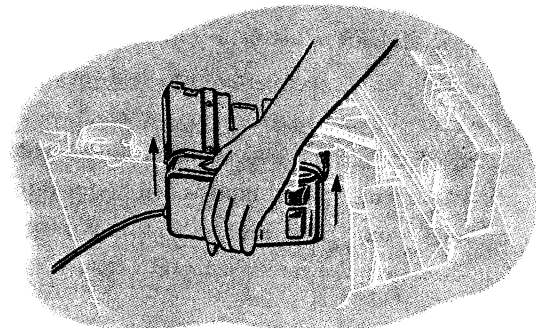

Fig. 3B. Replacing Controller in Cabinet
*Fig. 3. Showing Handle for Carrying Machine with cradle, install controller in side of cabinet as shown in **Fig. 3B**, then connect 2-pin terminal. Lower machine to sewing position and connect 3-pin terminal.*